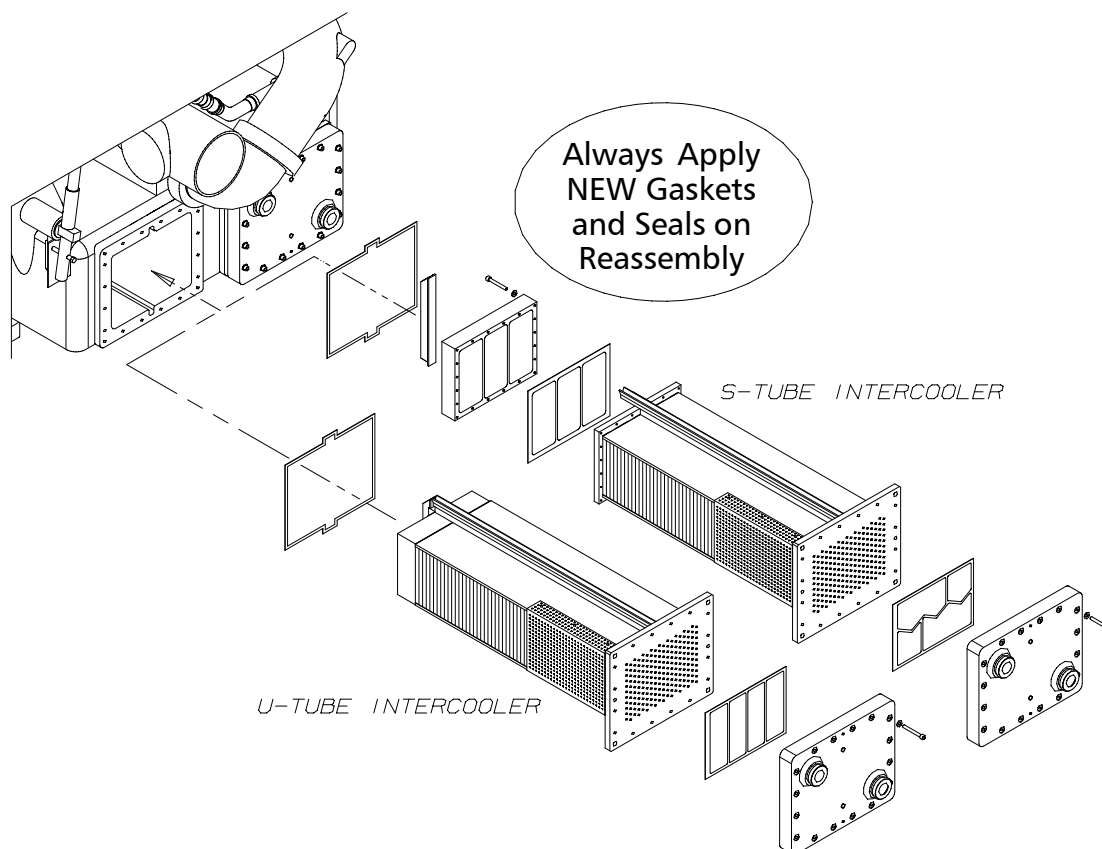

Figure 5—1 Intercooler Disassembly
4. Remove the intercoolers from the cooler cavity. Referring to Figure 5—1, determine the type of bundle (U-tube or straight tube). If it is a straight tube type, remove the rear header.